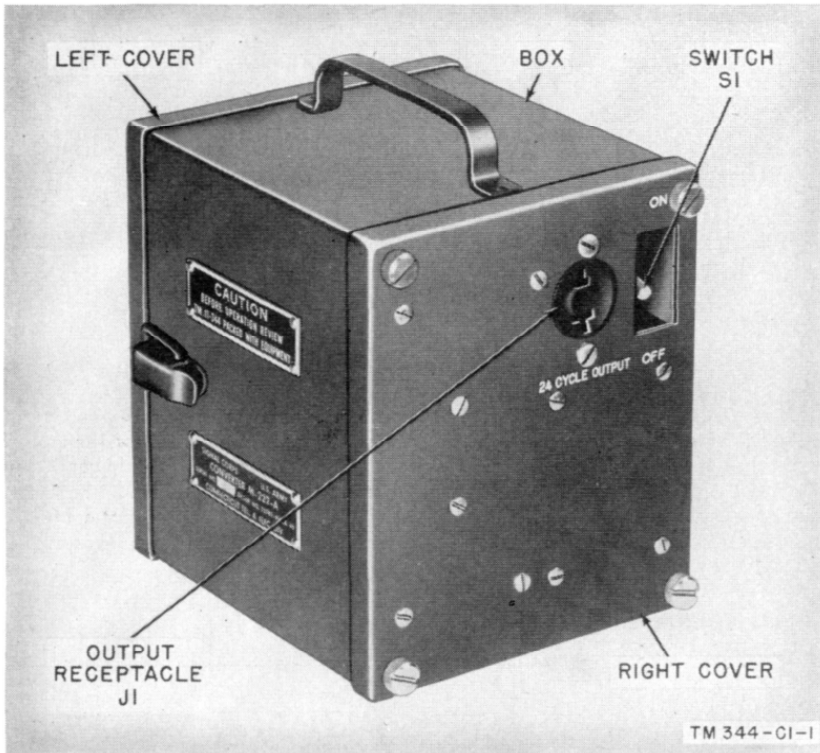

Figure 2.1 (Added). Converter M-222-A, outside view.
a. BOX. Converter M-222-A is housed in a rectangular steel box with two removable sides (fig. 2.1). The front panel bears a caution plate, nameplate, and the lower section of one catch fastener.